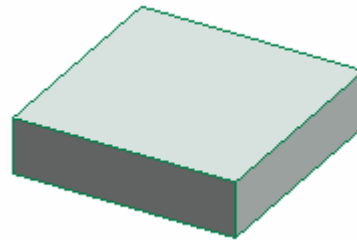

Figure 44. Extruded Right guide block.
96. Extrude this design to a distance of $\frac{3}{4}$ ". It should look like figure 44.